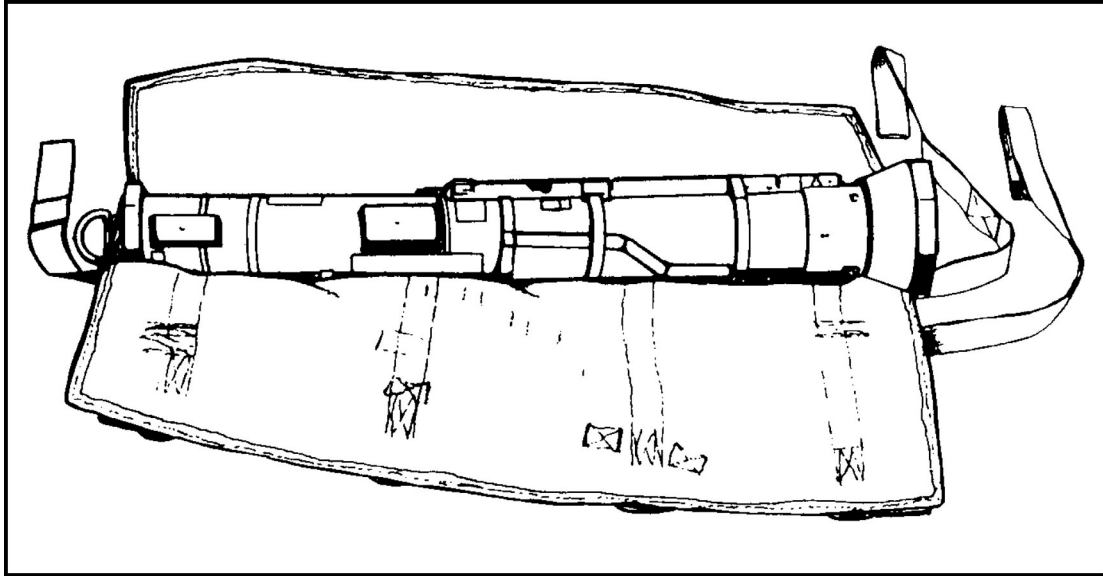

Figure 12-49. AT4 weapon round positioned.
(1) Position the weapon round on the pack with the carrying sling facing down, the launcher forward (small) end fitted into the nonadjustable cross D-ring strap, and the launcher aft (large) end centered on the middle launcher aft end securing strap (Figure 12-49).
- (2) Ensure that the launcher forward (small) end fits snugly into the nonadjustable cross D-ring strap.
- (3) Fold the portion of the pack that has the rifle muzzle and butt stow pockets attached over the weapon round.